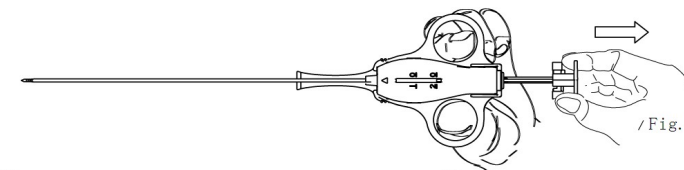

Fig. 4
2. Charge the biopsy instrument by pulling back hard on the plunger until a firm click is felt at either the 10 or 20mm position as in fig. 4. This indicates that the needle spring is locked into ready position.